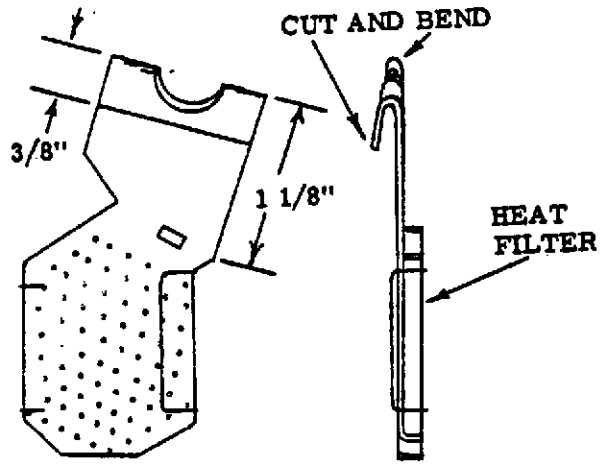

Figure 3-78. MODIFIED SAFETY SHUTTER (42994-G1)
e. Modify a discarded 42994-G1 Safety Shutter as shown in (Figure 3-78). (A similar heat filter may be used)